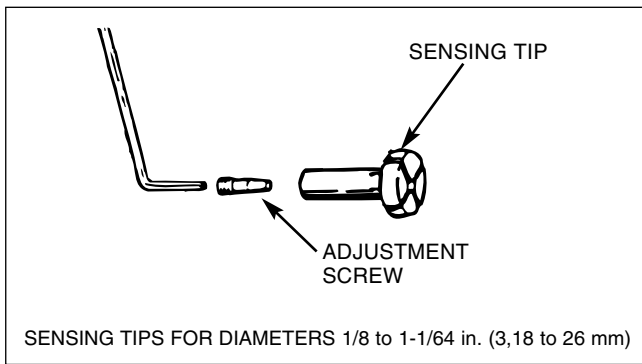

FIGURE 2-12, Sensing Tip
2. Select and adjust proper Sensing Tip or Sensing Tip Unit for final bore size to be gaged (see Table 2-3 & Figure 2-12).